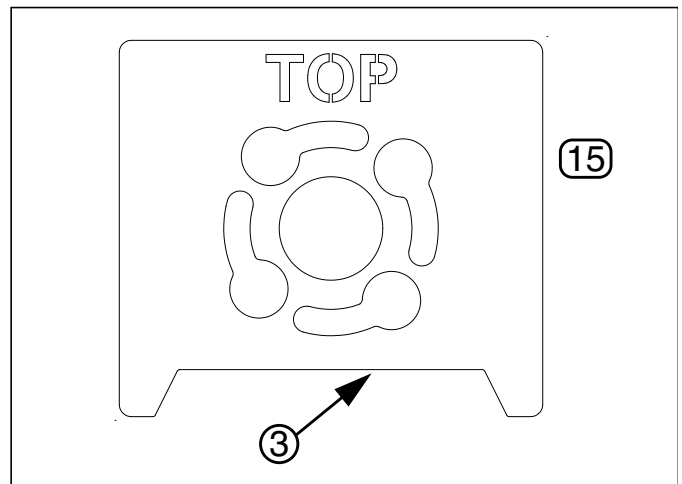
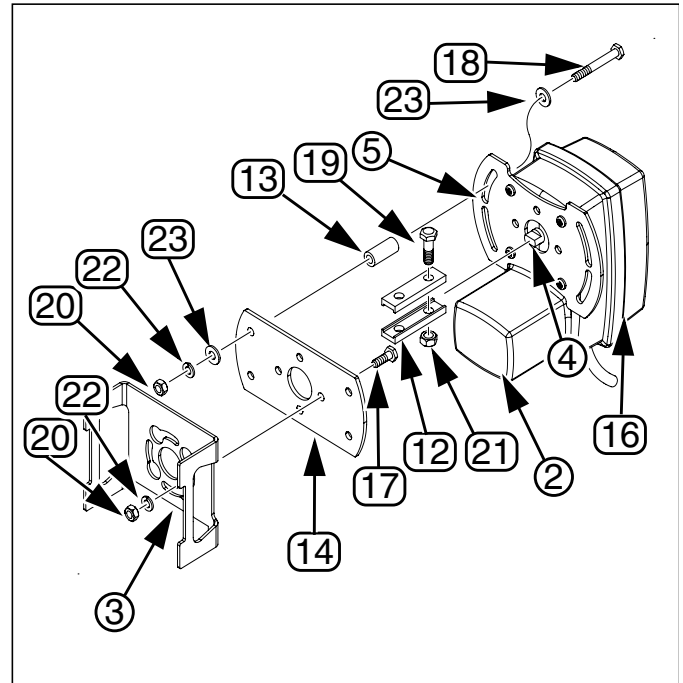

Figure 3
Figure 4
Refer to Figure 3 and Figure 4
6. The new actuator ⑬ will not fit correctly without removing material from the bottom of the existing air box actuator mount ③ (see Figure 4).
### Refer to Figure 3